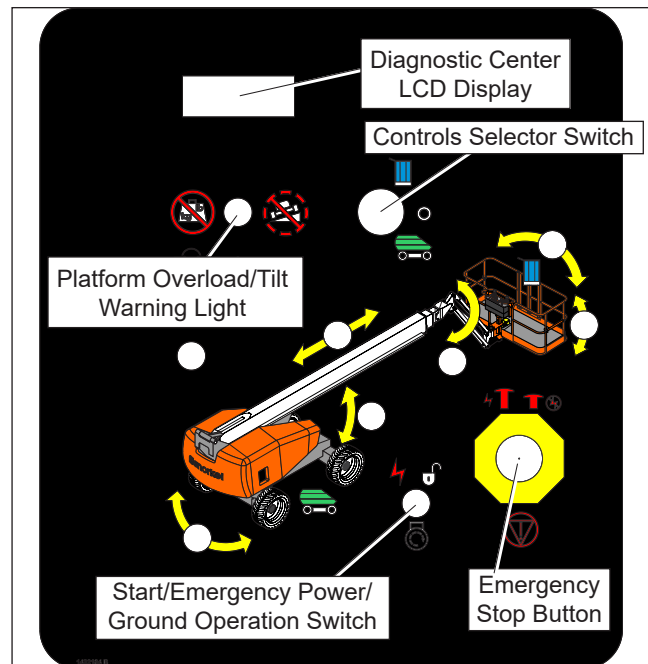

Figure 7.8 – Lower Controls
With no personnel in the platform, test the operation of each control from the lower controls (refer to Figure 7.8).
3. The start switch (refer to Figure 7.8) function works like an automobile ignition switch.
To test the diagnostic center display on the lower control panel (refer to Figure 7.8), from the lower controls: